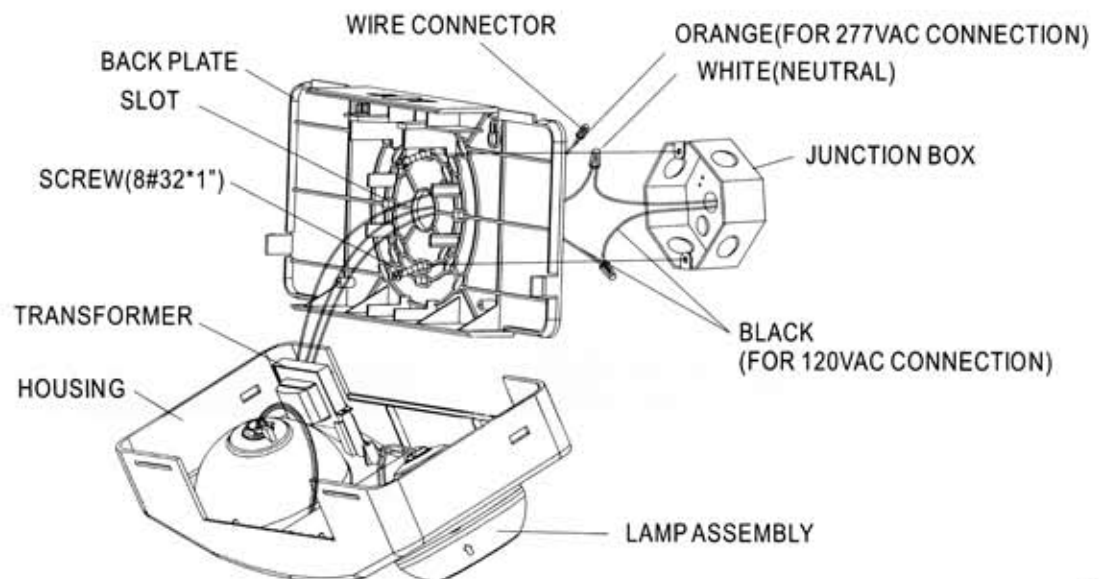

Fig.2
3. Remove the knock out hole on center and knock out slot on the back plate that corresponds to junction box holes to used. (see Fig. 2)